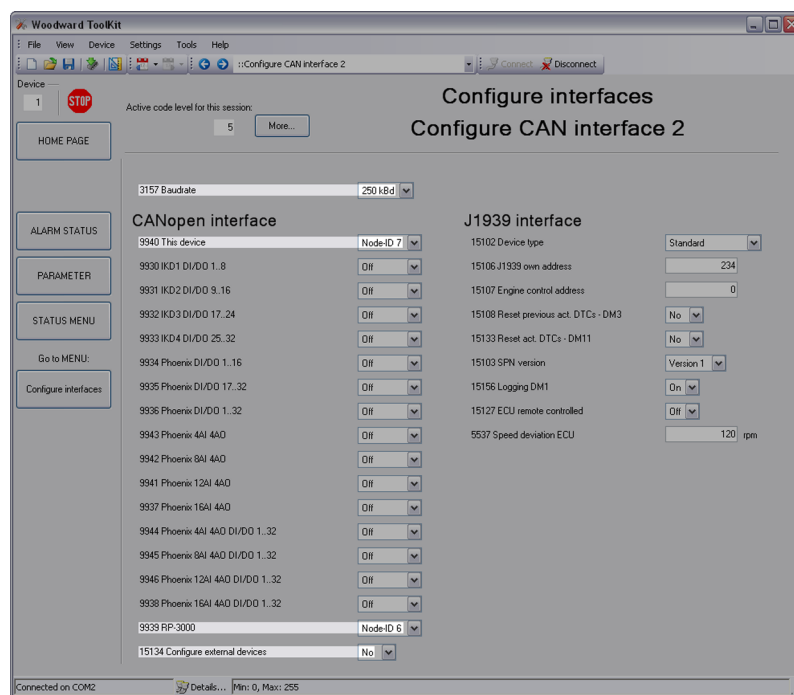

Fig. 34: ToolKit configuration CAN interface 2 (example)
- 1.** Select "Parameter → Configure interfaces → Configure CAN interface 2" (Refer to Fig. 34 for details).